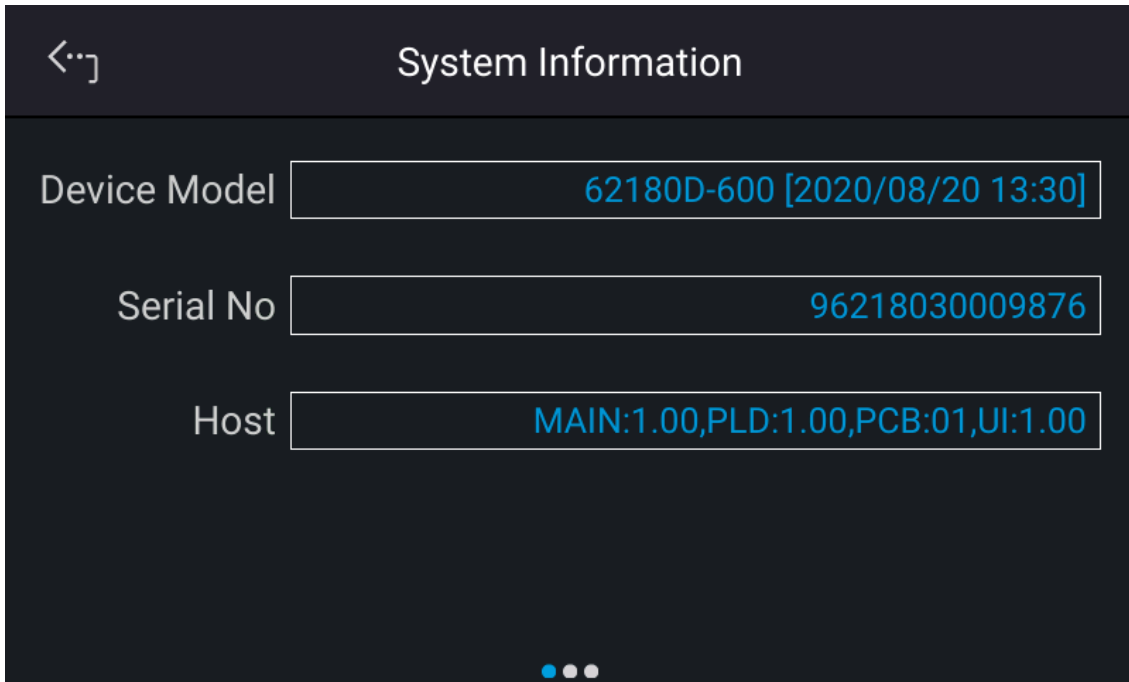

Figure 3-13
- Device Model : Displays the power supply model no. as shown in Figure 3-13.
- Serial No. : Displays the device serial no. as shown in Figure 3-13.
- Host : Displays the version of CPLD, PCB and UI as shown in Figure 3-13